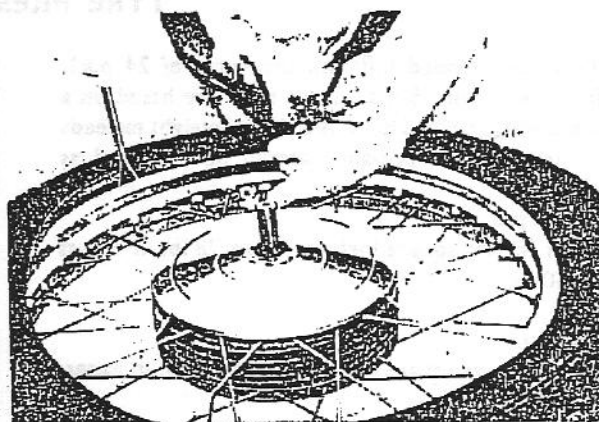

Fig. F19. Refitting the second bead with the security bolt in position
- (1) Fit the rim band.
- (2) Fit the first bead to the rim without the inner tube inside.
- (3) Assemble the security bolt into the rim, putting the nut onto the first few threads (see Fig. F19).
- (4) Partly inflate the inner tube and fit it into the tyre.